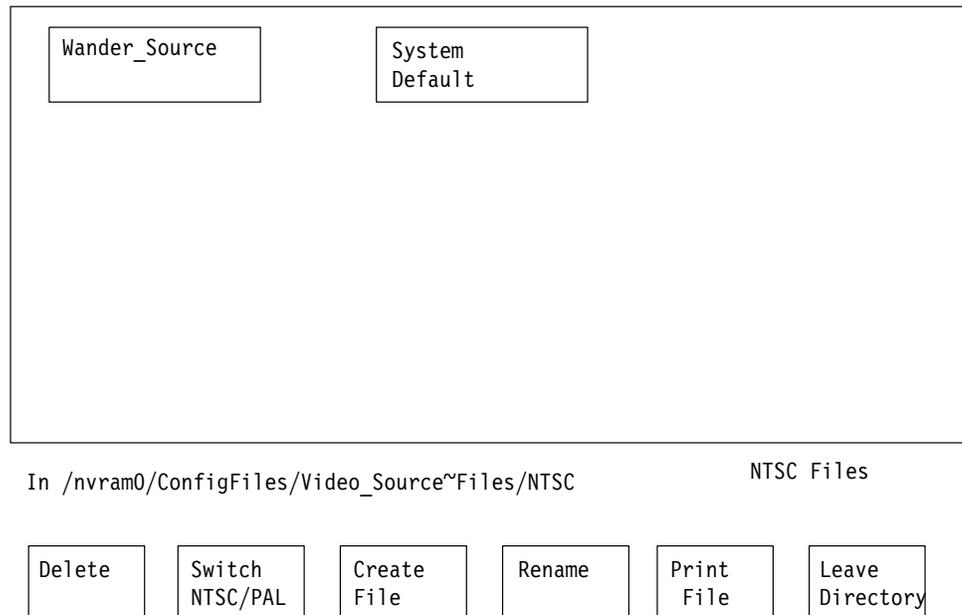

Figure 4: Typical Video Source file display
- d. Touch the **Video_Source Files** soft key to enter the Video Source Files directory. The screen displays the System Default file and any user-created files that have been created. See Figure 4.
Touch the **Video_Source Files** soft key to display the Wander-measurement System Default video source file and any other Wander-measurement video source files that have been created. See Figure 4.
- a. In the Video_Source Files directory, touch the **Delete** soft key. See Figure 4. The query line (the top line of the display) asks you to select a file to be deleted.